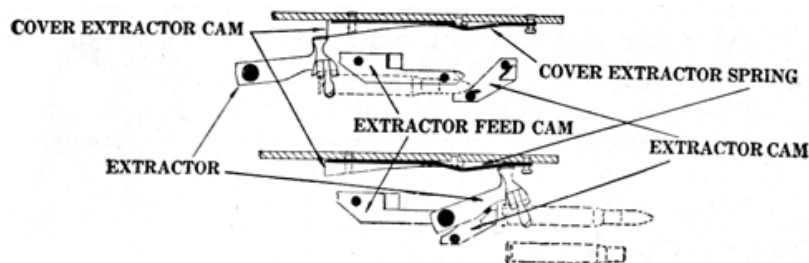

FIGURE 11.—Extracting and loading mechanism.
■35. FORWARD MOVEMENT OF BOLT (fig. 11).—When the bolt starts forward, the extractor is guided downward by the action of the extractor feed cam on the extractor cam plunger. This causes the extractor to force the cartridge down the T-slot in line with the chamber. The ejector knocks the empty case from the T-slot and holds the cartridge in line with the chamber. The upper end of the cocking lever is forced backward, causing the lower end to move forward away from the rear of the firing If the the pin is prematurely released, it is reengaged by the cocking lever and eased forward so that the striker cannot contact the cartridge primer until after the breach has been locked.
■37. LOADING AND LOCKING ACTION (figs. 11 and 14) .—During the latter part of the forward movement of the bolt, the extractor rises as the plunger moves along the top of the extractor cam. When the extractor rises, the ejector is cammed outward, leaving the cartridge in the chamber gripped by the T-slot. The extractor grips the first round in the belt and is held down firmly by the cover extractor spring, ready to extract the round. The breech lock is forced upward by the breech lock cam and locks the breech just before the recoiling parts reach the firing position. The breech lock engages in a recess cut in the bottom of the bolt and thus locks the bolt firmly to the barrel extension and against the rear end of the barrel.